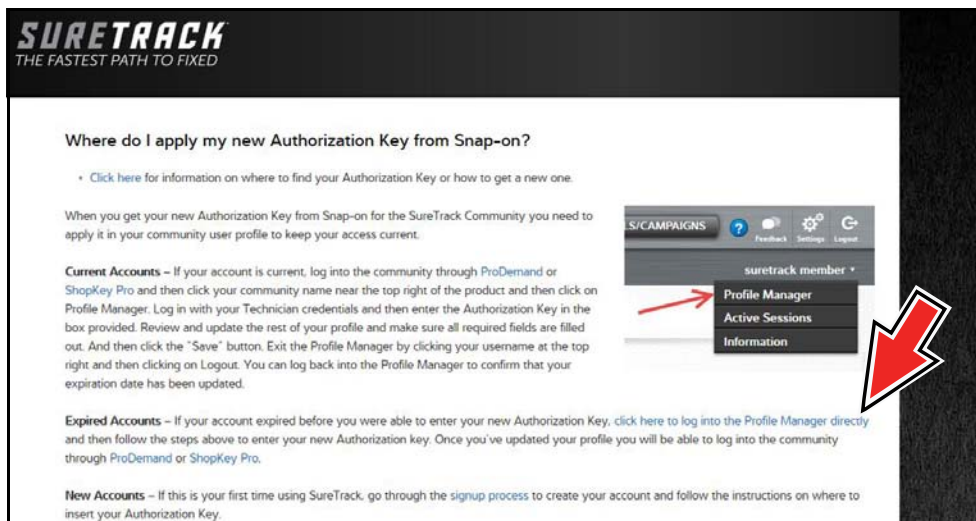

Figure 10-16
3. The SureTrack FAQ webpage opens (Figure 10-16).